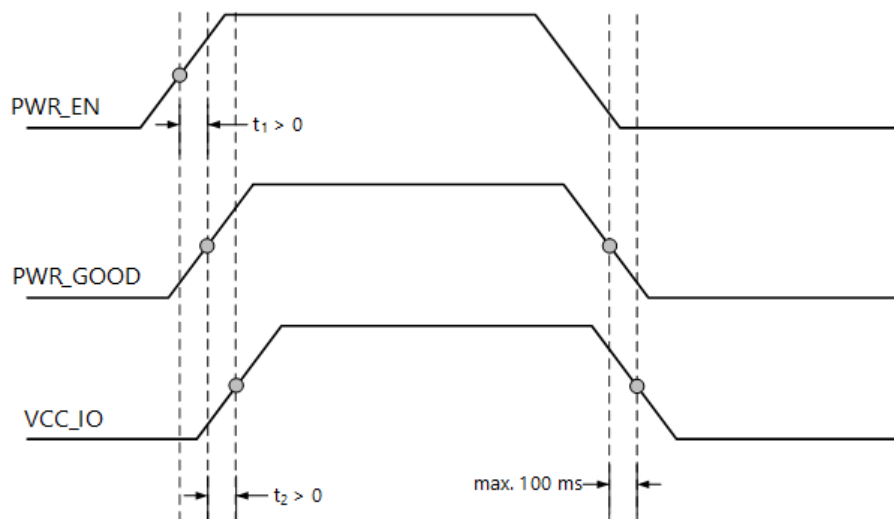

Figure 10: Power-Up Sequence - VCC_IO in Relation with PWR_GOOD and PWR_EN Signals
Figure 10 illustrates the requirements of the VCC_IO power sequence. Do not power the VCC_IO pins when PWR_GOOD and PWR_EN signals are not active. If the module is not powered, make sure that the VCC_IO voltages are disabled, for example, by using a switch that uses PWR_GOOD as enable signal on the base board.
- Follow the power sequence diagram shown in Figure 10. This ensures that the I/Os are tri-stated at power-on and power-off.